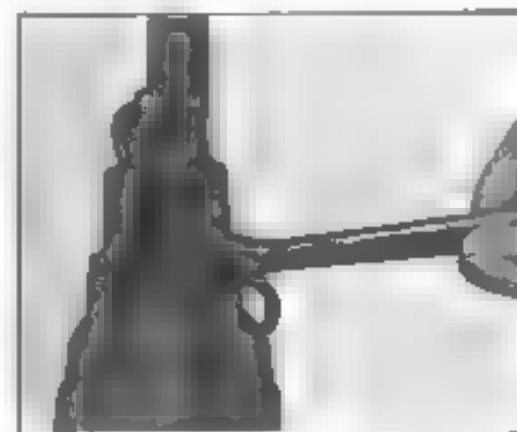
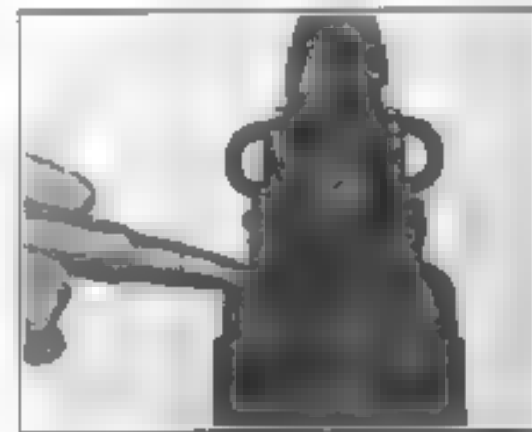

Fig. 25
Fig. 26
N. B. If the special spanner (fig. 25) is not available, adjustment can be made with the nose of a cartridge (fig. 26), or even by hand.